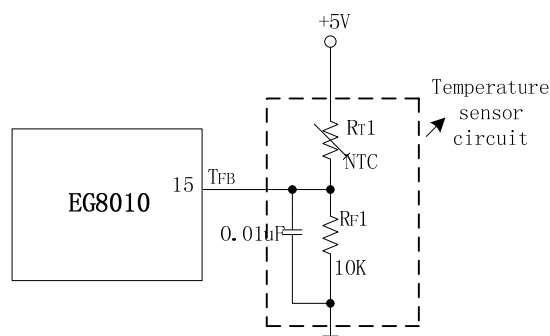

Figure 8.3a EG8010 Temperature detection circuit
Pin TFB measures inverter's environment temperature. Its main functions are overtemperature protection detection and displaying the environment temperature onto 12832 LCD. For temperature detection circuit shown in figure 8.3a, NTC thermal resistor RT1 and measuring resistor RF1 form a simple voltage divider circuit. Voltage changes as the NTC resistance changes, and thus we can acquire the corresponding temperature. Thermal resistor has 10k resistance at 25°C (B=3380). Pin TFB's overtemperature voltage sets at 4.3V. EG8010 will set the level of SPWMOUT1 to SPWMOUT4 at "0" or "1" and shut down all power MOSFET to decrease the voltage to zero depending on pin (9)PWMTYP's setting. Once overtemperature protection activates, EG8010 will re-determine environment temperature. If pin TFB's voltage is below 4.0V, EG8010 will turn off overtemperature protection and the inverter functions regularly. If overtemperature protection is not used, this pin needs to be grounded.